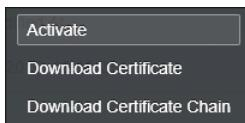

Figure 10.62 Activating a New SAP Key
7. After the sender administrator has confirmed these actions, you can proceed and activate the new SAP key in the tenant keystore. Go to the **New SAP Keys** monitor, select the new SAP Key (in our example, with the alias **sap_cloudintegrationcertificate**), and choose **Activate** under **Actions** (Figure 10.62).